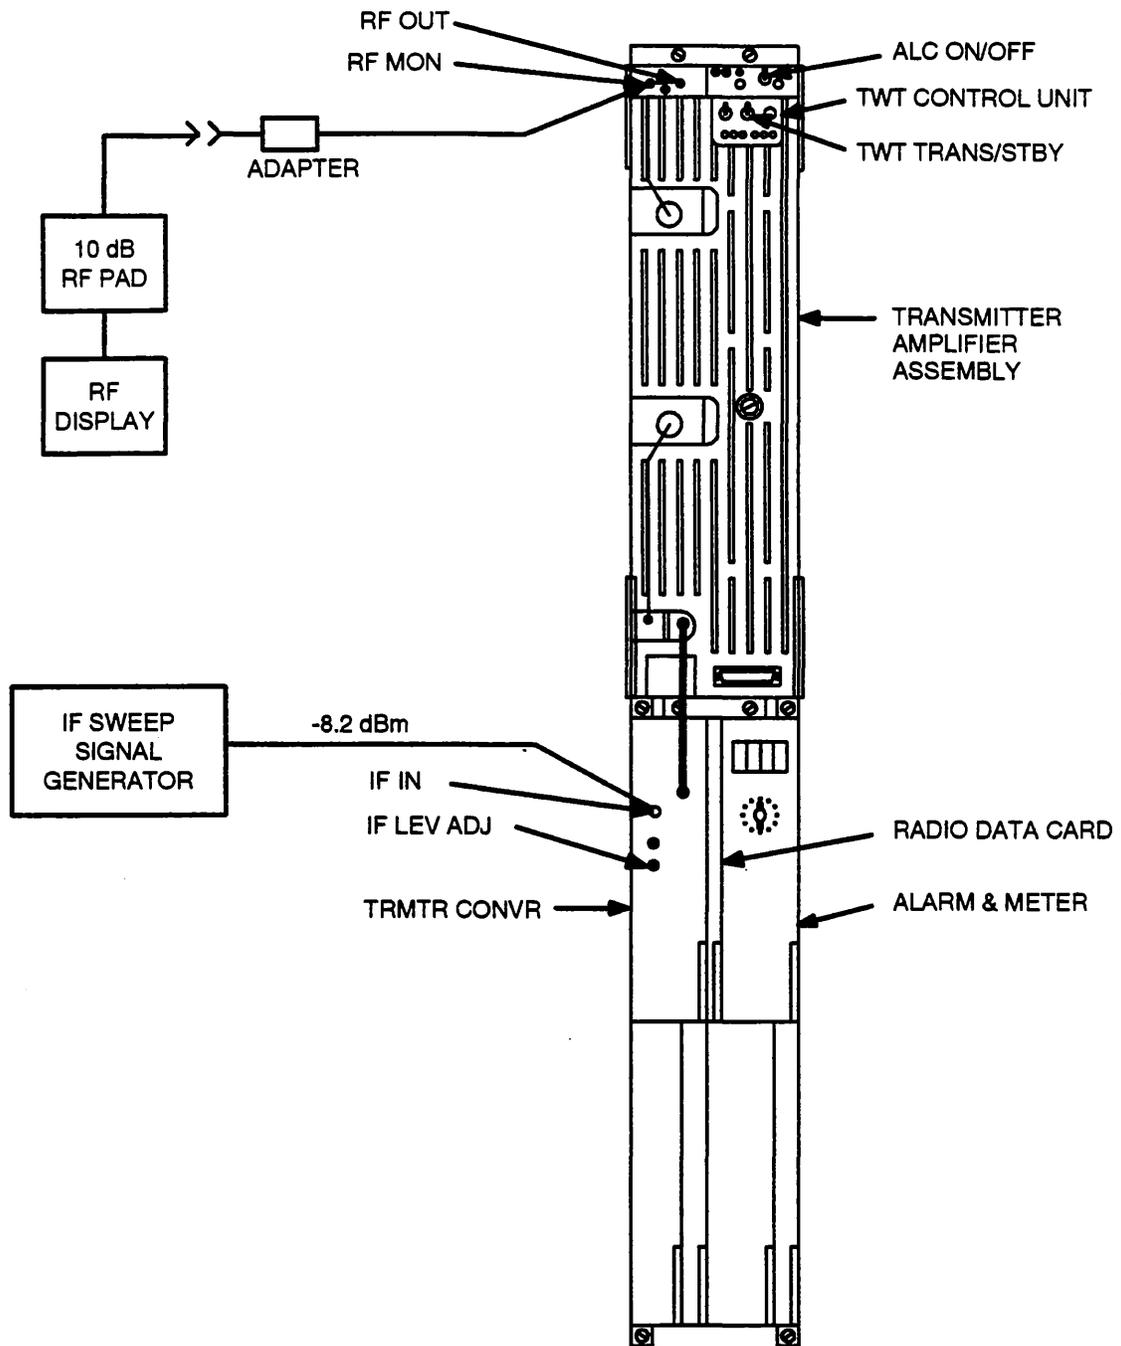

Figure 9-Slope and Frequency Response Test Connections With IF Sweep Signal Generator
- Refer to Figure 9 or 10.
5. Connect the test equipment per Figure 9.